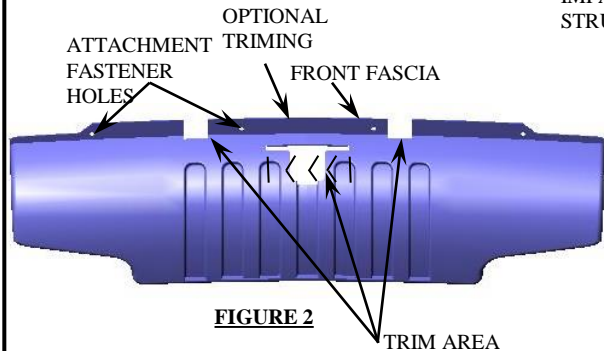

FIGURE 2
①	Qty. (2)	HEX BOLT – 1/2"-13 X 1-1/2" GR 5	⑥	Qty. (2)	LOCK WASHER – 1/2"
②	Qty. (6)	WASHER – 1/2" CONICAL	⑦	Qty. (4)	HANDLE NUT – 1/2"-13
③	Qty. (2)	BLOCK – 1/4" X 1-1/2" X 3"	⑧	Qty. (2)	CABLE TIES (NOT SHOWN)
④	Qty. (2)	HEX NUTS – 1/2"-13	⑨	Qty. (2)	BLOCK – 1/4" X 1-1/2" X 2"
⑤	Qty. (4)	HEX BOLT – 1/2"-13 X 1-1/4" GR 5
1. REMOVE (6) FRONT FASCIA ATTACHMENT FASTENERS, (4 LOCATED AS SHOWN IN FIGURE 2 AND (2) LOCATED AT THE REAR SIDE OF IMPACT STRUCTURE) WITH A GOOD NUMBER 2 PHILLIP HEAD SCREW DRIVER.
6. ASK CUSTOMER BEFORE TRIMMING FASCIA. TRIM FASCIA AS SHOWN IN FIGURE 2. USE THE HITCH AS A PATTERN.